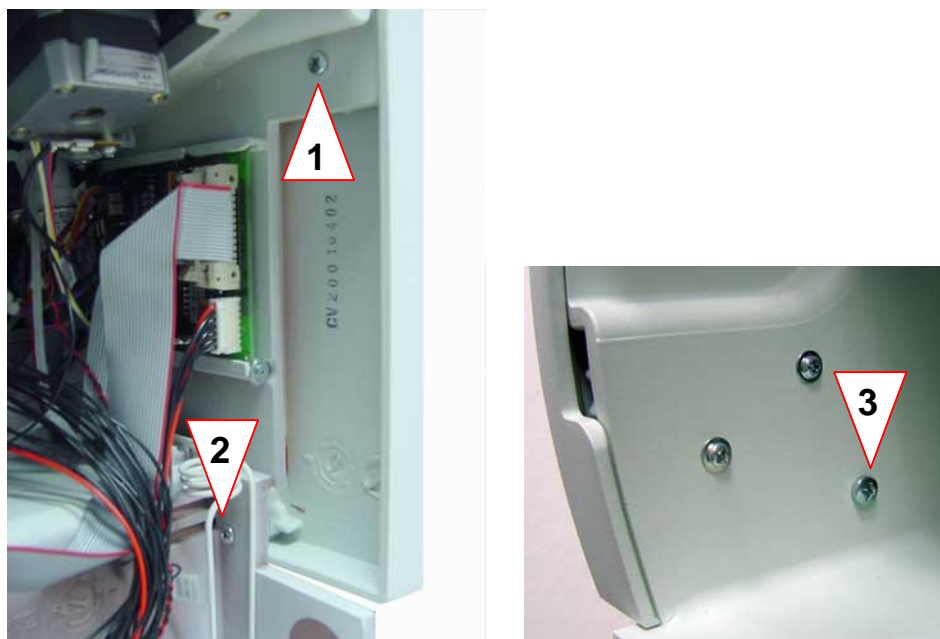

Fig. 3-50 Mounting screws of the left side cover
2. Dismount the left side cover by removing the three mounting screws in the rear compartment and in the bottle compartment (see Fig. 3-50, 1 to 3).